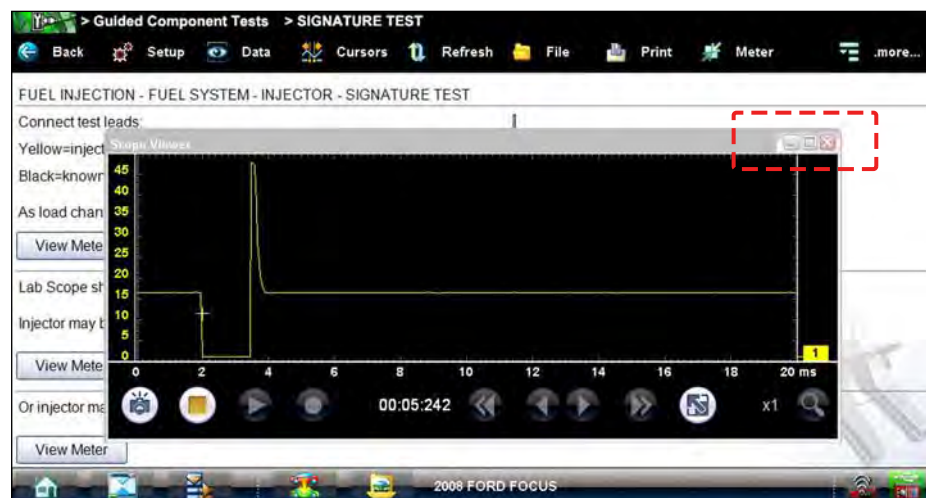

Figure 7-8 Sample meter view in a separate window
2. Tap the **Meter** icon a second time and the meter open as a separate window (Figure 7-8). This window can remain open if you switch to the Scan Module and can be accessed from the Windows toolbar at the bottom of the screen. You can also resize and reposition the meter window on the screen.